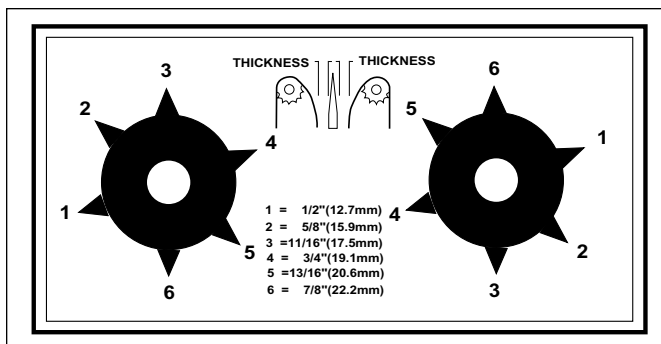

Figure 3. Bun Thickness Compression Knobs
1. Set the Bun Thickness Compression Knobs (Figure 3) to the desired settings for crown and heels.
**NOTE:** The Bun Thickness Compression Knobs (Figure 3) must be set to “6 & 6” prior to measuring or removing or reinstalling the Conveyor Belt Chains.